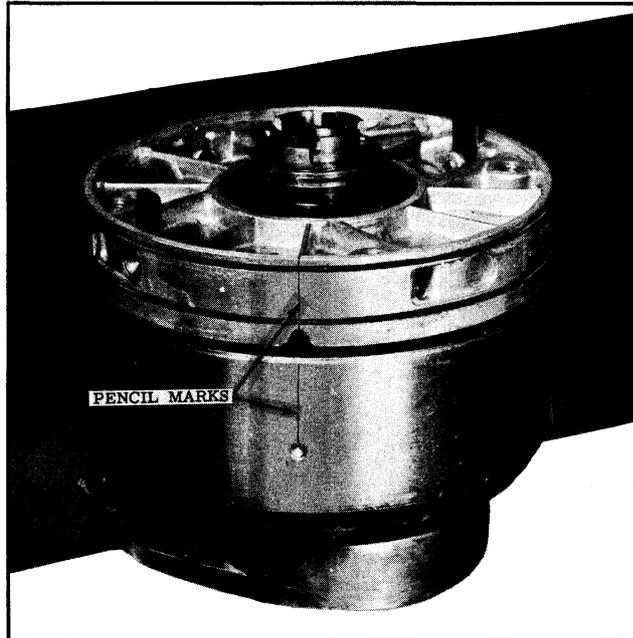

Fig. 3-94 Coupling Cover Alignment as possible into the coupling. (See Fig. 3-95)
6. Place cover on drive torus with marks aligned. Mark cover and drive torus with a pencil to indicate the notch and locating pin. (See Fig. 3-94)